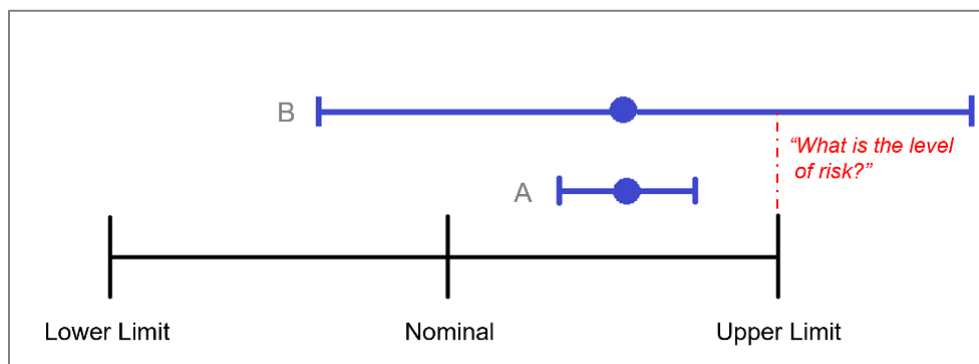

Figure 1. Illustration of measurement decision risk
This is because all measurements contain errors. The “uncertainty of measurement” includes errors expressed as a standard deviation of all error contributions [1]. Figure 1 shows two identical measurement results but with different measurement uncertainties. The expanded uncertainty¹ in the case “A” measurement result occurs within the tolerance limit. The case “B” measurement result has a significantly larger measurement uncertainty. There is a higher risk of falsely accepting a result in case B, because of the larger measurement uncertainty as indicated by “What is the level of risk?” in Figure 1.
1. Accurate measurements of current performance corresponding to *all* specifications (Case A, Figure 1).
1. Accurate measurements of current performance corresponding to all specifications (see case A of Figure 1).